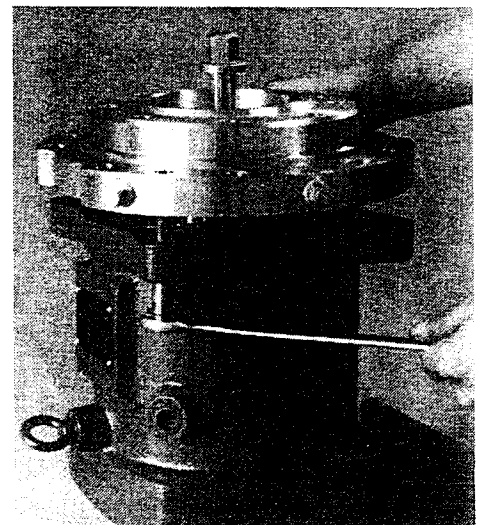

Figure 8
7. Place two M20 bolts (spaced at 180 degrees) into the threaded ears of the frame adapter to jack the rear casing away from the frame adapter [Fig. 8]. Jack evenly to avoid binding between the rear casing and outer magnets.